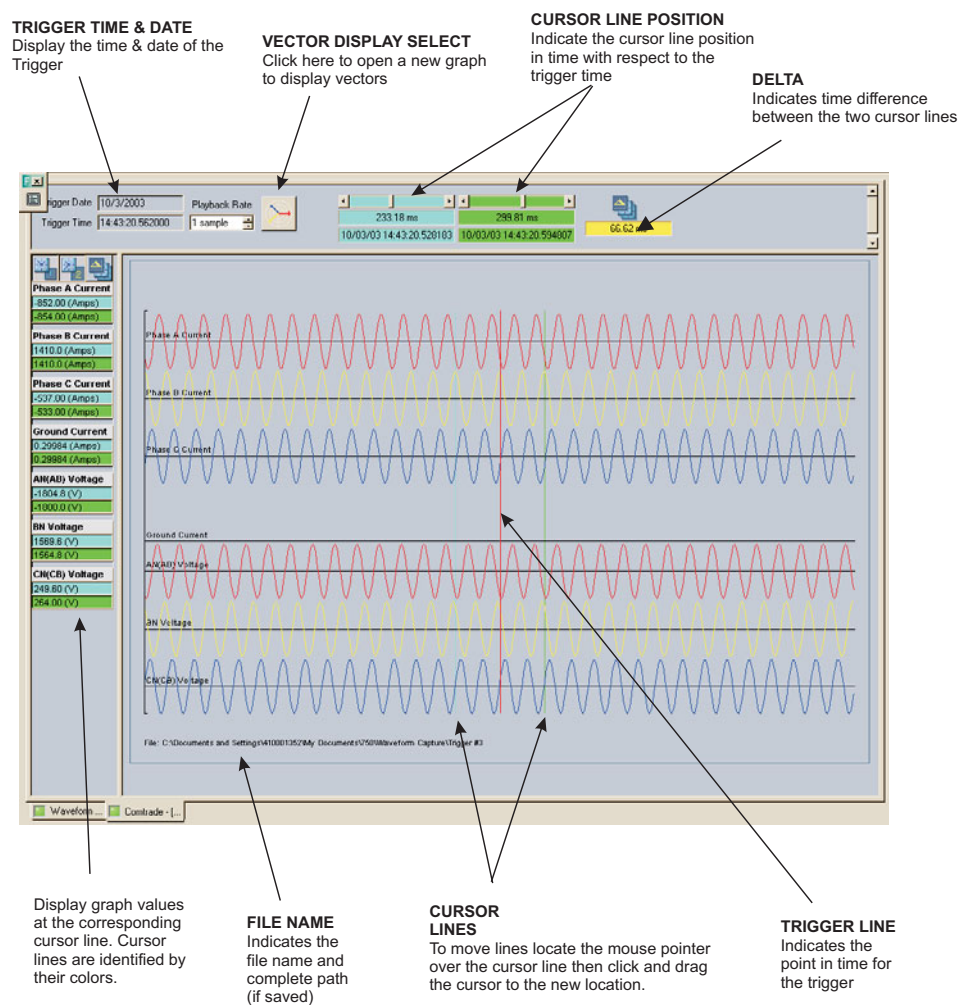

FIGURE 4-6: Waveform Capture Window Attributes
11. To view a vector graph of the quantities contained in the waveform capture, press the Vector display button (see FIGURE 4-6: *Waveform Capture Window Attributes* on page 4-35) to display the following window: